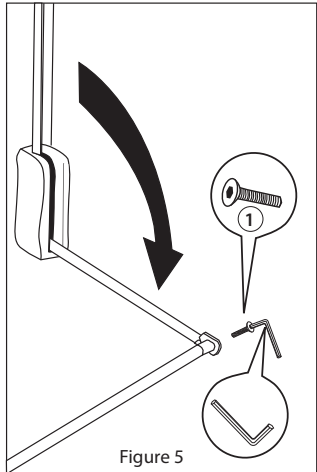

Figure 5
7. Pull down the arm of the unit and place the plastic bracket on the end of both arms. Insert the telescopic hanging rod into one side and secure with hex head bolt (1), see Figure 5. Twist as shown in Figure 6 to adjust hanging rod, attach the other side in the same manner.